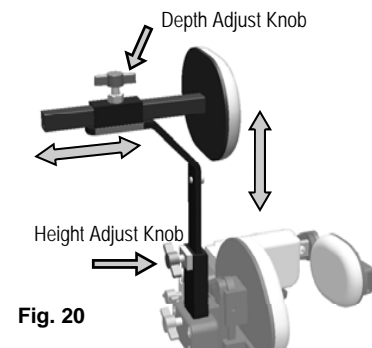

Fig. 20
- Adjust Headpad height and depth to desired location and tighten the adjustment knobs (fig. 20).